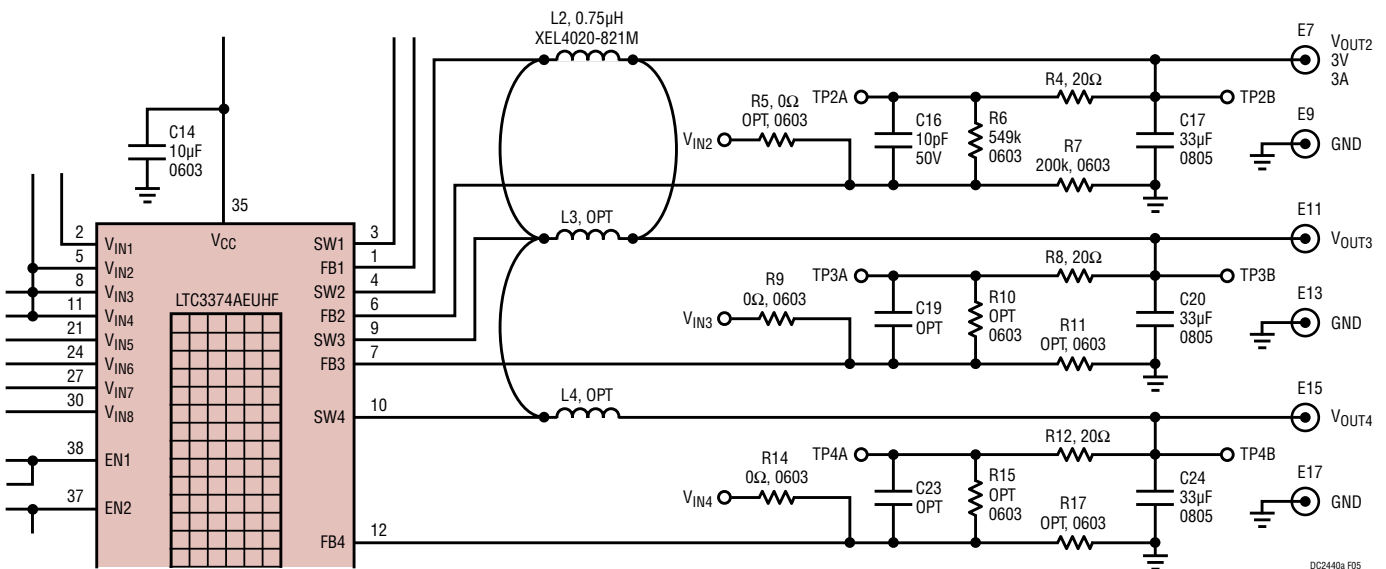
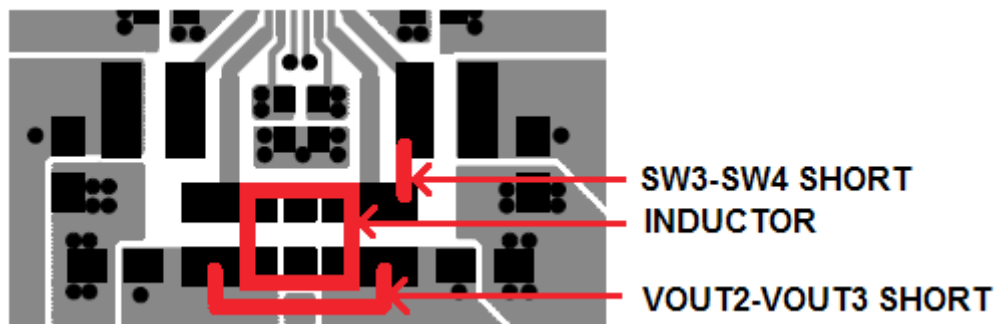

Figure 5. Combined 3A Output Regulators 2, 3, 4
Figure 6. Combined 3A Regulator Inductor Placement and Connections
To combine regulators 2, 3 and 4 for a 3A output, perform the following steps and refer to Figure 5 and Figure 6:
2. Add an appropriate size inductor that can handle the 3A output at current limit. The inductor should be placed across the L2, L3, pads and the copper between the pads as shown in Figure 6. The inductance should be reduced to about 1/3 for a 3A output. A 0.75 $\mu$ H inductor is recommended for a switching frequency of 2MHz. Refer to Table 3 of for recommended inductors.
3. Short SW3 and SW4 together at the L3 and L4 SW pads as shown in Figure 6.